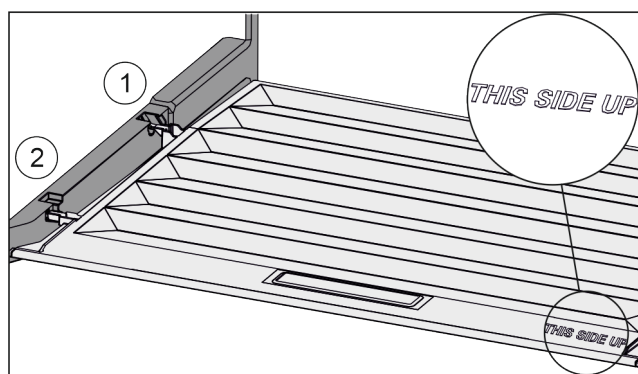

Fig. 157
- Insert the lip of the cover over the opening of the rear bracket Fig. 157 (1) and click into place Fig. 157 (2).